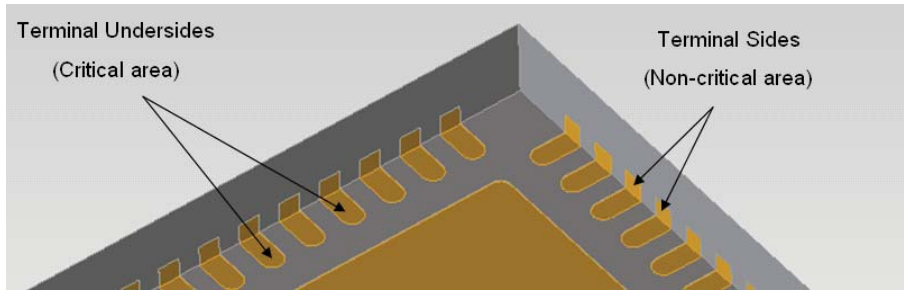

Figure 3d. Bottom view of A320 (QFN package)
**Critical and Non-critical areas of QFN soldering in Figure 3d and 3e**